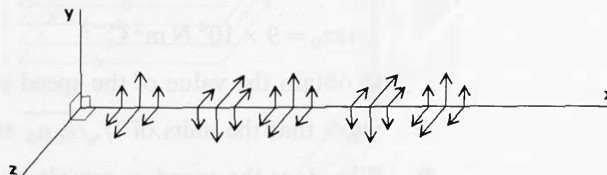

Figure J140
- 44(R)** A television programme is broadcast at a frequency of 600 MHz with the electric vector vertical. Figure J140 illustrates the waves at a considerable distance from the transmitter.